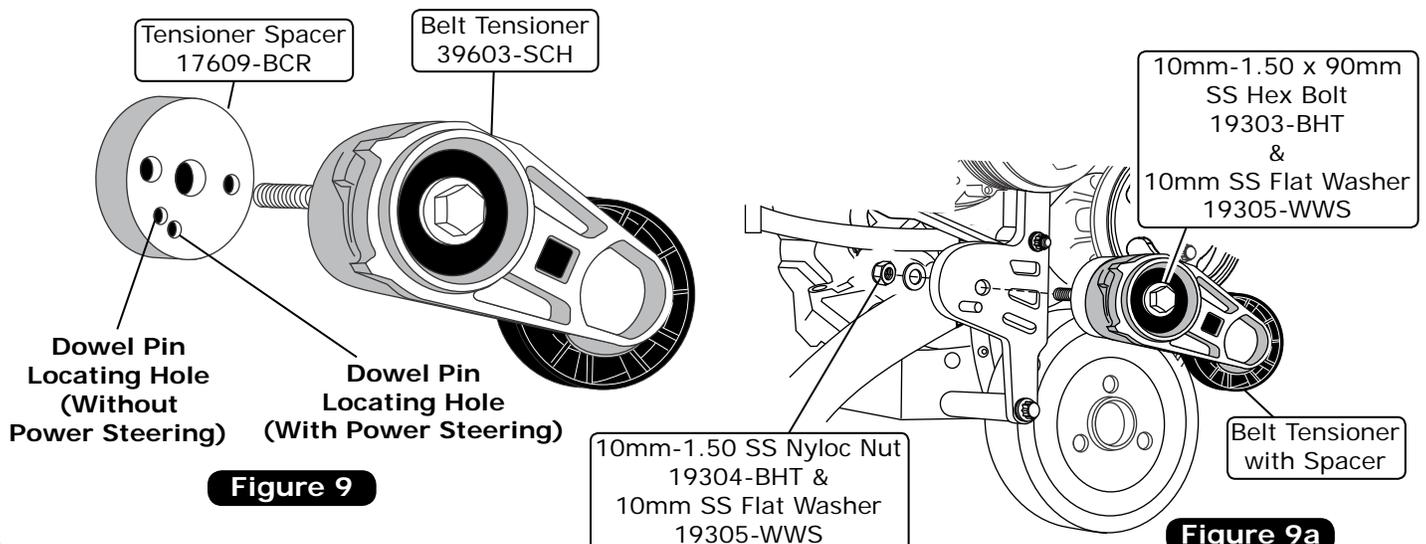

Figure 9
1. Install the tensioner spacer onto the back side of the belt tensioner (See Figure 9, below).
2. Install the belt tensioner with spacer through the belt tensioner bracket. **NOTE: Be sure to insert the dowel pin into the correct locating hole of the tensioner spacer (See Figure 9, below).** Secure the belt tensioner with spacer to the belt tensioner bracket using a 10mm-1.50 x 90mm SS hex bolt, (2) 10mm SS flat washers and a 10mm-1.50 SS nyloc nut (See Figure 9a, below). Torque to 21 ± 2 lb ft.